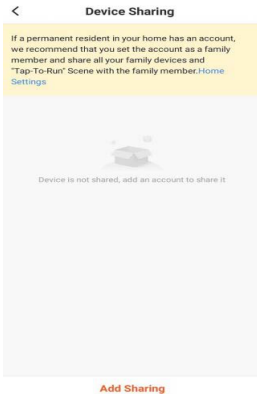

Fig.8
2. Click the "shared device" button to enter the device sharing operation, and then click "add and share" as shown in Fig.8.